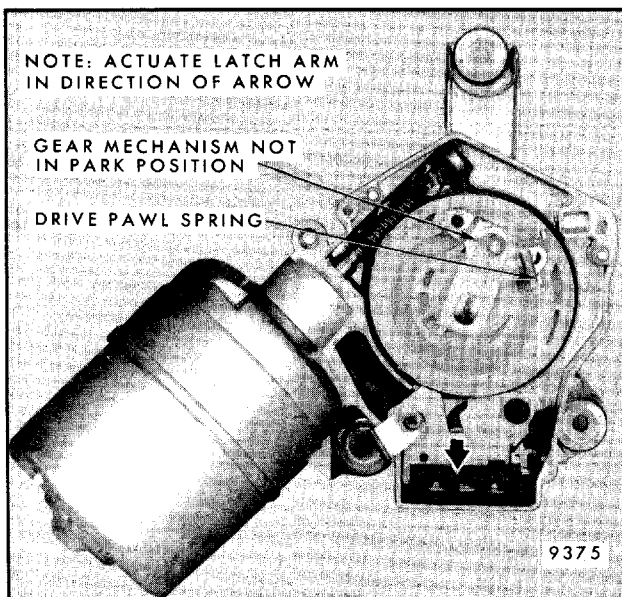

Fig. 2-28-Testing Relay Switch
- a. If gear mechanism is in full park position, insert a small screwdriver into the switch slot (between the drive pawl and the latch arm) and push latch arm downward and toward the relay switch coil in direction of the arrow in Figure 2-28. Next, remove washer pump assembly and probe (penetrate insulation) black with pink stripe wire with 12V tester.